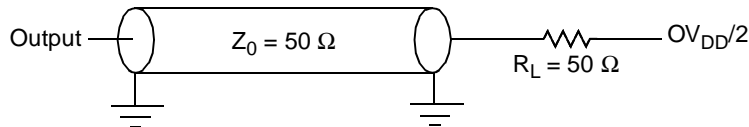

Figure 25. AC Test Load for the JTAG Interface
- All outputs are measured from the midpoint voltage of the falling/rising edge of t_{CLK} to the midpoint of the signal in question. The output timings are measured at the pins. All output timings assume a purely resistive 50 Ω load (see Figure 25). Time-of-flight delays must be added for trace lengths, vias, and connectors in the system.
- The symbols for timing specifications follow the pattern of $t_{\text{(first two letters of functional block)(signal)(state)(reference)(state)}}$ for inputs and $t_{\text{(first two letters of functional block)(reference)(state)(signal)(state)}}$ for outputs. For example, $t_{\text{JTDV KH}}$ symbolizes JTAG device timing (JT) with respect to the time data input signals (D) reaching the valid state (V) relative to the t_{JTG} clock reference (K) going to the high (H) state or setup time. Also, $t_{\text{JTDX KH}}$ symbolizes JTAG timing (JT) with respect to the time data input signals (D) went invalid (X) relative to the t_{JTG} clock reference (K) going to the high (H) state. In general, the clock reference symbol is based on three letters representing the clock of a particular function. For rise and fall times, the latter convention is used with the appropriate letter: R (rise) or F (fall).
Figure 25 provides the AC test load for TDO and the boundary-scan outputs of the MPC8347E.